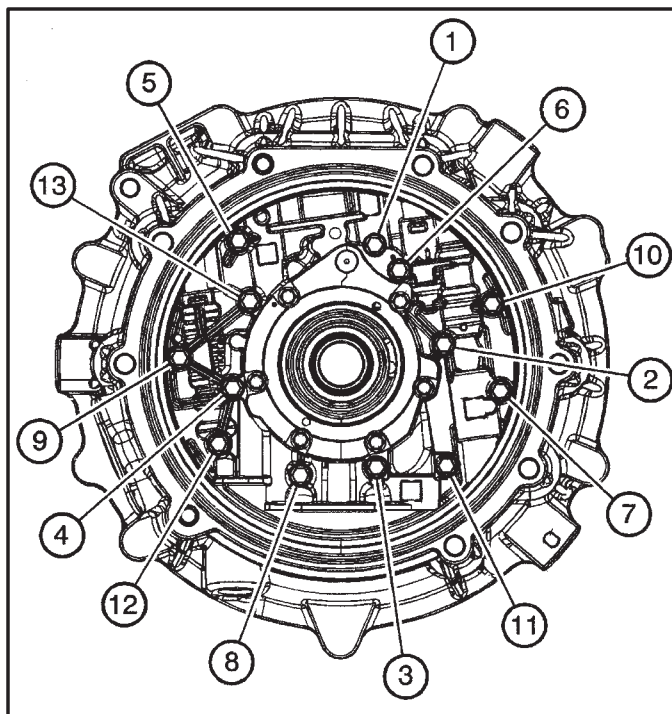
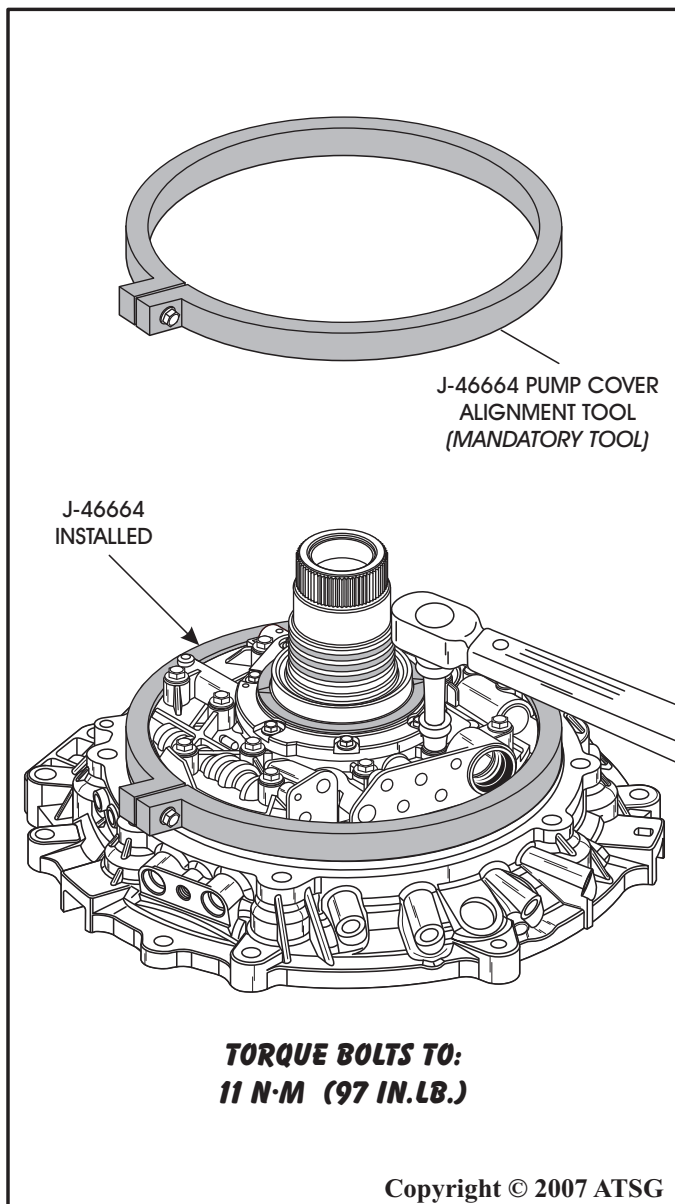

Figure 74
Figure 73
40. Install the J-46664 pump alignment band and tighten, as shown in Figure 73.
41. Torque the 13 oil pump cover retaining bolts to 11 Nm (97 in.lb.), as shown in Figure 73, and using the sequence shown in Figure 74.